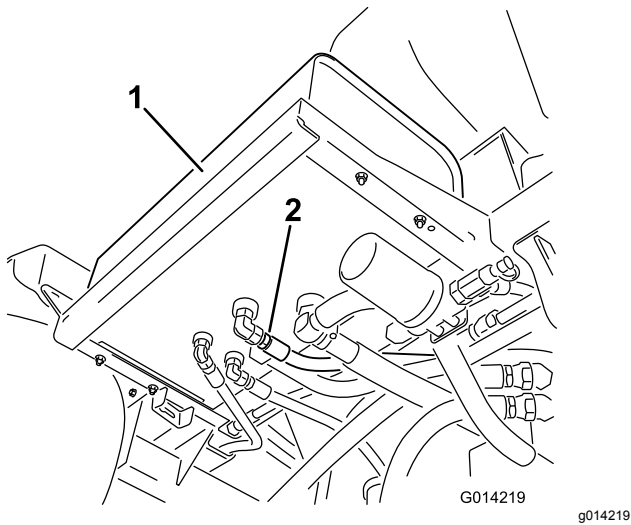

Figure 72
2. Clean the area around 1 hydraulic hose fitting on the bottom of the hydraulic oil tank (Figure 72).
4. Remove the hose fitting from the tank, allowing the oil to drain into the pan (Figure 72).